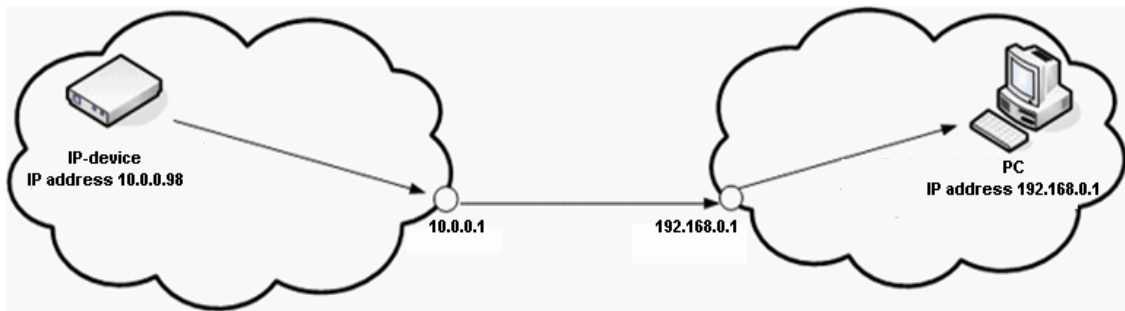

Figure 6.1-16 Server and IP-camera are in different subnetworks
4.2. If the Server and IP-camera are installed in different subnetworks, then the **Default router** parameter is to be specified (Figure 6.1-16).